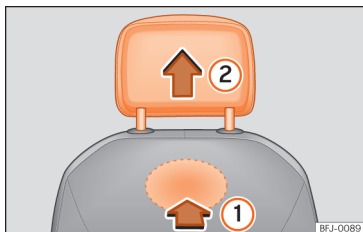

Fig. 96 Front head restraint: removal.
- To unlock it, look for the rabbet on the bottom of the backrest and press in the direction of the arrow »» Fig. 96 ①.
- Remove the head restraint in the direction of the arrow ②.